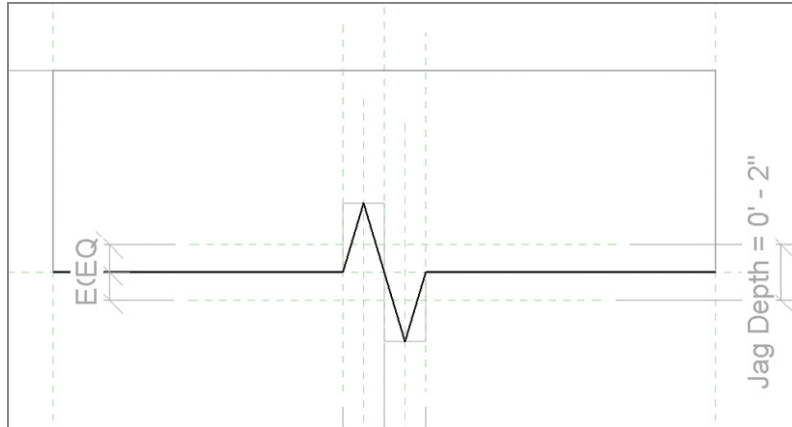

FIGURE 6.25 Sketch new jag lines in the masking region boundary
7. From the Create tab in the ribbon, click the Line tool, and make sure Subcategory is set to Medium Lines at the right end of the ribbon. Draw new jag lines, as shown in Figure 6.25. Make sure the lines you draw snap to the midpoints of the previous jag lines and the end points of the remaining straight lines.